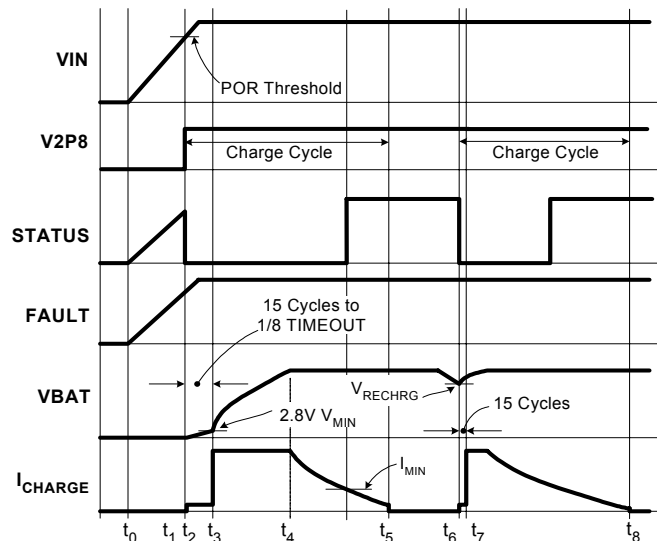

FIGURE 5. OPERATION WAVEFORMS
Figure 5 illustrates the typical signal waveforms for the linear charger from the power-up to a recharge cycle. More detailed Applications Information is given below.
LOW and a HIGH logic signal respectively. Figure 5 illustrates the start up of the charger between  $t_0$  to  $t_2$ .
A charge cycle consists of three charge modes: trickle mode, constant current (CC) mode, and constant voltage (CV) mode. The charge cycle always starts with the trickle mode until the battery voltage stays above  $V_{MIN}$  (2.84V typical) for 15 consecutive cycles of the internal oscillator. If the battery voltage drops below  $V_{MIN}$  during the 15 cycles, the 15-cycle counter is reset and the charger stays in the trickle mode. The charger moves to the CC mode after verifying the battery voltage. As the battery-pack terminal voltage rises to the final charge voltage  $V_{CH}$ , the CV mode begins. The terminal voltage is regulated at the constant  $V_{CH}$  in the CV mode and the charge current is expected to decline. After the charge current drops below  $I_{MIN}$  (1/10 of  $I_{REF}$ , see End-of-Charge Current for more detail), the ISL6292C indicates the end-of-charge (EOC) with the STATUS pin. The charging actually does not terminate until the internal timer completes its length of TIMEOUT in order to bring the battery to its full capacity. Signals in a charge cycle are illustrated in Figure 5 between points  $t_2$  to  $t_5$ .
After a charge cycle completes, charging is prohibited until the battery voltage drops to a recharge threshold,  $V_{RECHRG}$  (see Electrical Specifications). Then a new charge cycle starts at point  $t_6$  and ends at point  $t_8$ , as shown in Figure 5. The safety timer is reset at  $t_6$ .
The trickle mode charge has a time limit of  $1/8 T_{TIMEOUT}$ . If the battery voltage does not reach  $V_{MIN}$  within this limit, a  $T_{TIMEOUT}$  fault is issued and the charger latches up. The charger stays in trickle mode for at least 15 cycles of the internal oscillator and, at most,  $1/8$  of  $T_{TIMEOUT}$ , as shown in Figure 5.
The EOC current  $I_{MIN}$  sets the level at which the charger starts to indicate the end of the charge with the STATUS pin, as shown in Figure 5. The charger actually does not terminate charging until the end of the  $T_{TIMEOUT}$ , as described in the Total Charge Time section. In the